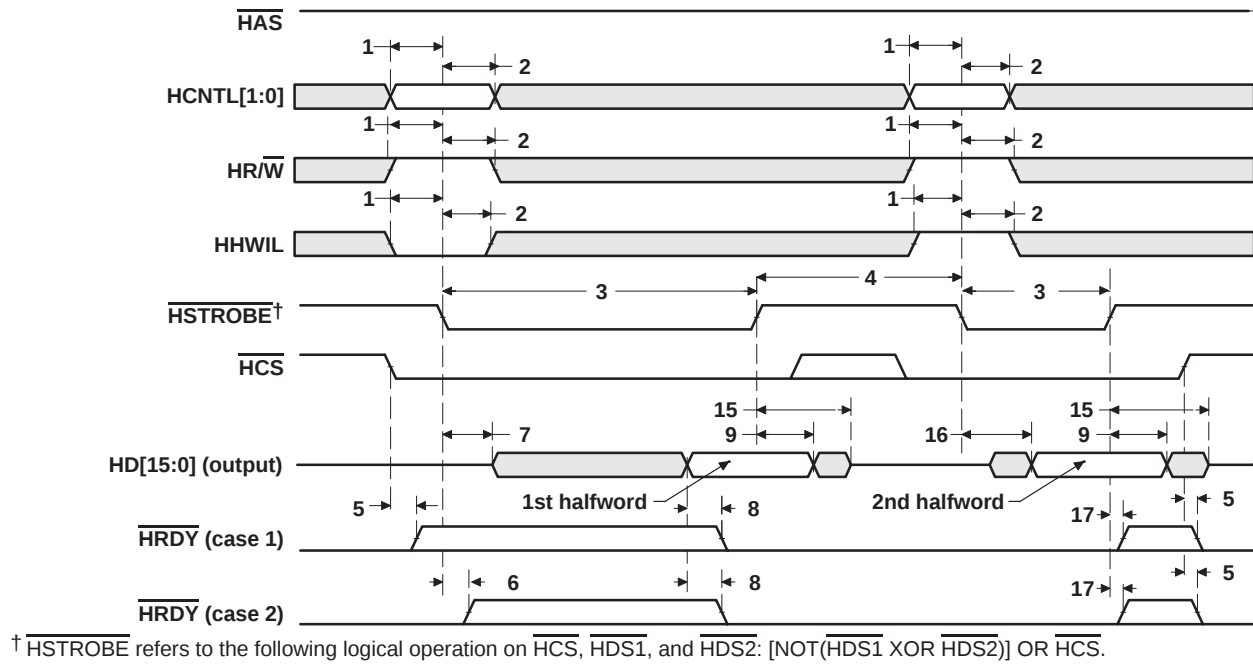

Figure 33. HPI Read Timing ( $\overline{HAS}$  Not Used, Tied High)
**timing requirements for host-port interface cycles [C6211]†‡ (see Figure 33, Figure 34, Figure 35, and Figure 36)**
**switching characteristics over recommended operating conditions during host-port interface cycles [C6211]†‡ (see Figure 33, Figure 34, Figure 35, and Figure 36)**
timing requirements for host-port interface cycles [C6211BGFNA/C6211B]†‡ (see Figure 33, Figure 34, Figure 35, and Figure 36)
switching characteristics over recommended operating conditions during host-port interface cycles [C6211BGFNA/C6211B]†‡ (see Figure 33, Figure 34, Figure 35, and Figure 36)